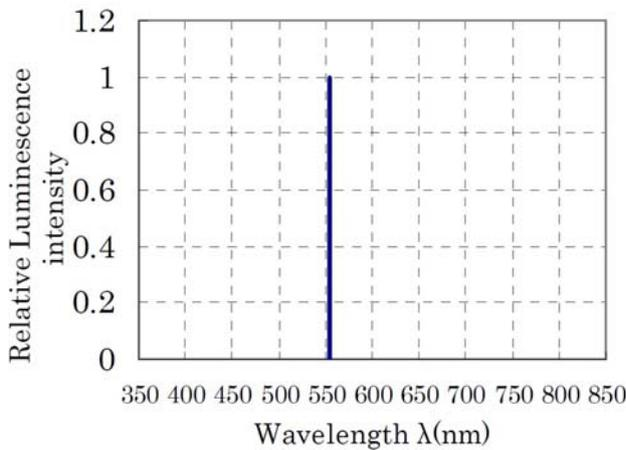
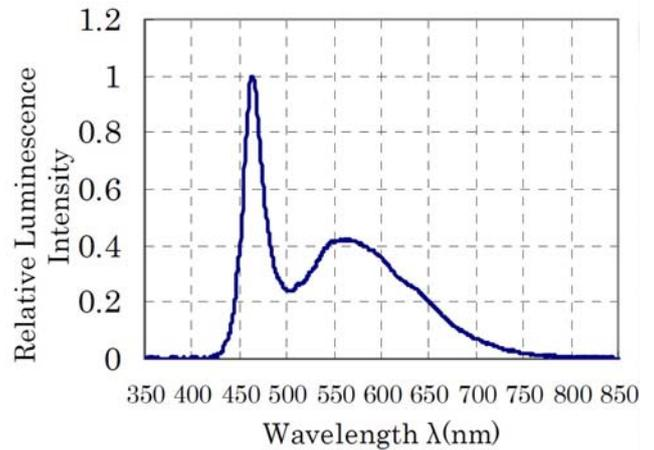

Figure.1: Spectrum Distribution
Figure.2: Spectral Distribution
As shown in Figure.1, monochromatic light can be defined as a single wavelength. In comparison a white LED has a distributed spectrum as shown in Figure.2.
- a) The standard Luminous Efficiency coefficient of 600nm is 0.631. (Refer to Figure 1)